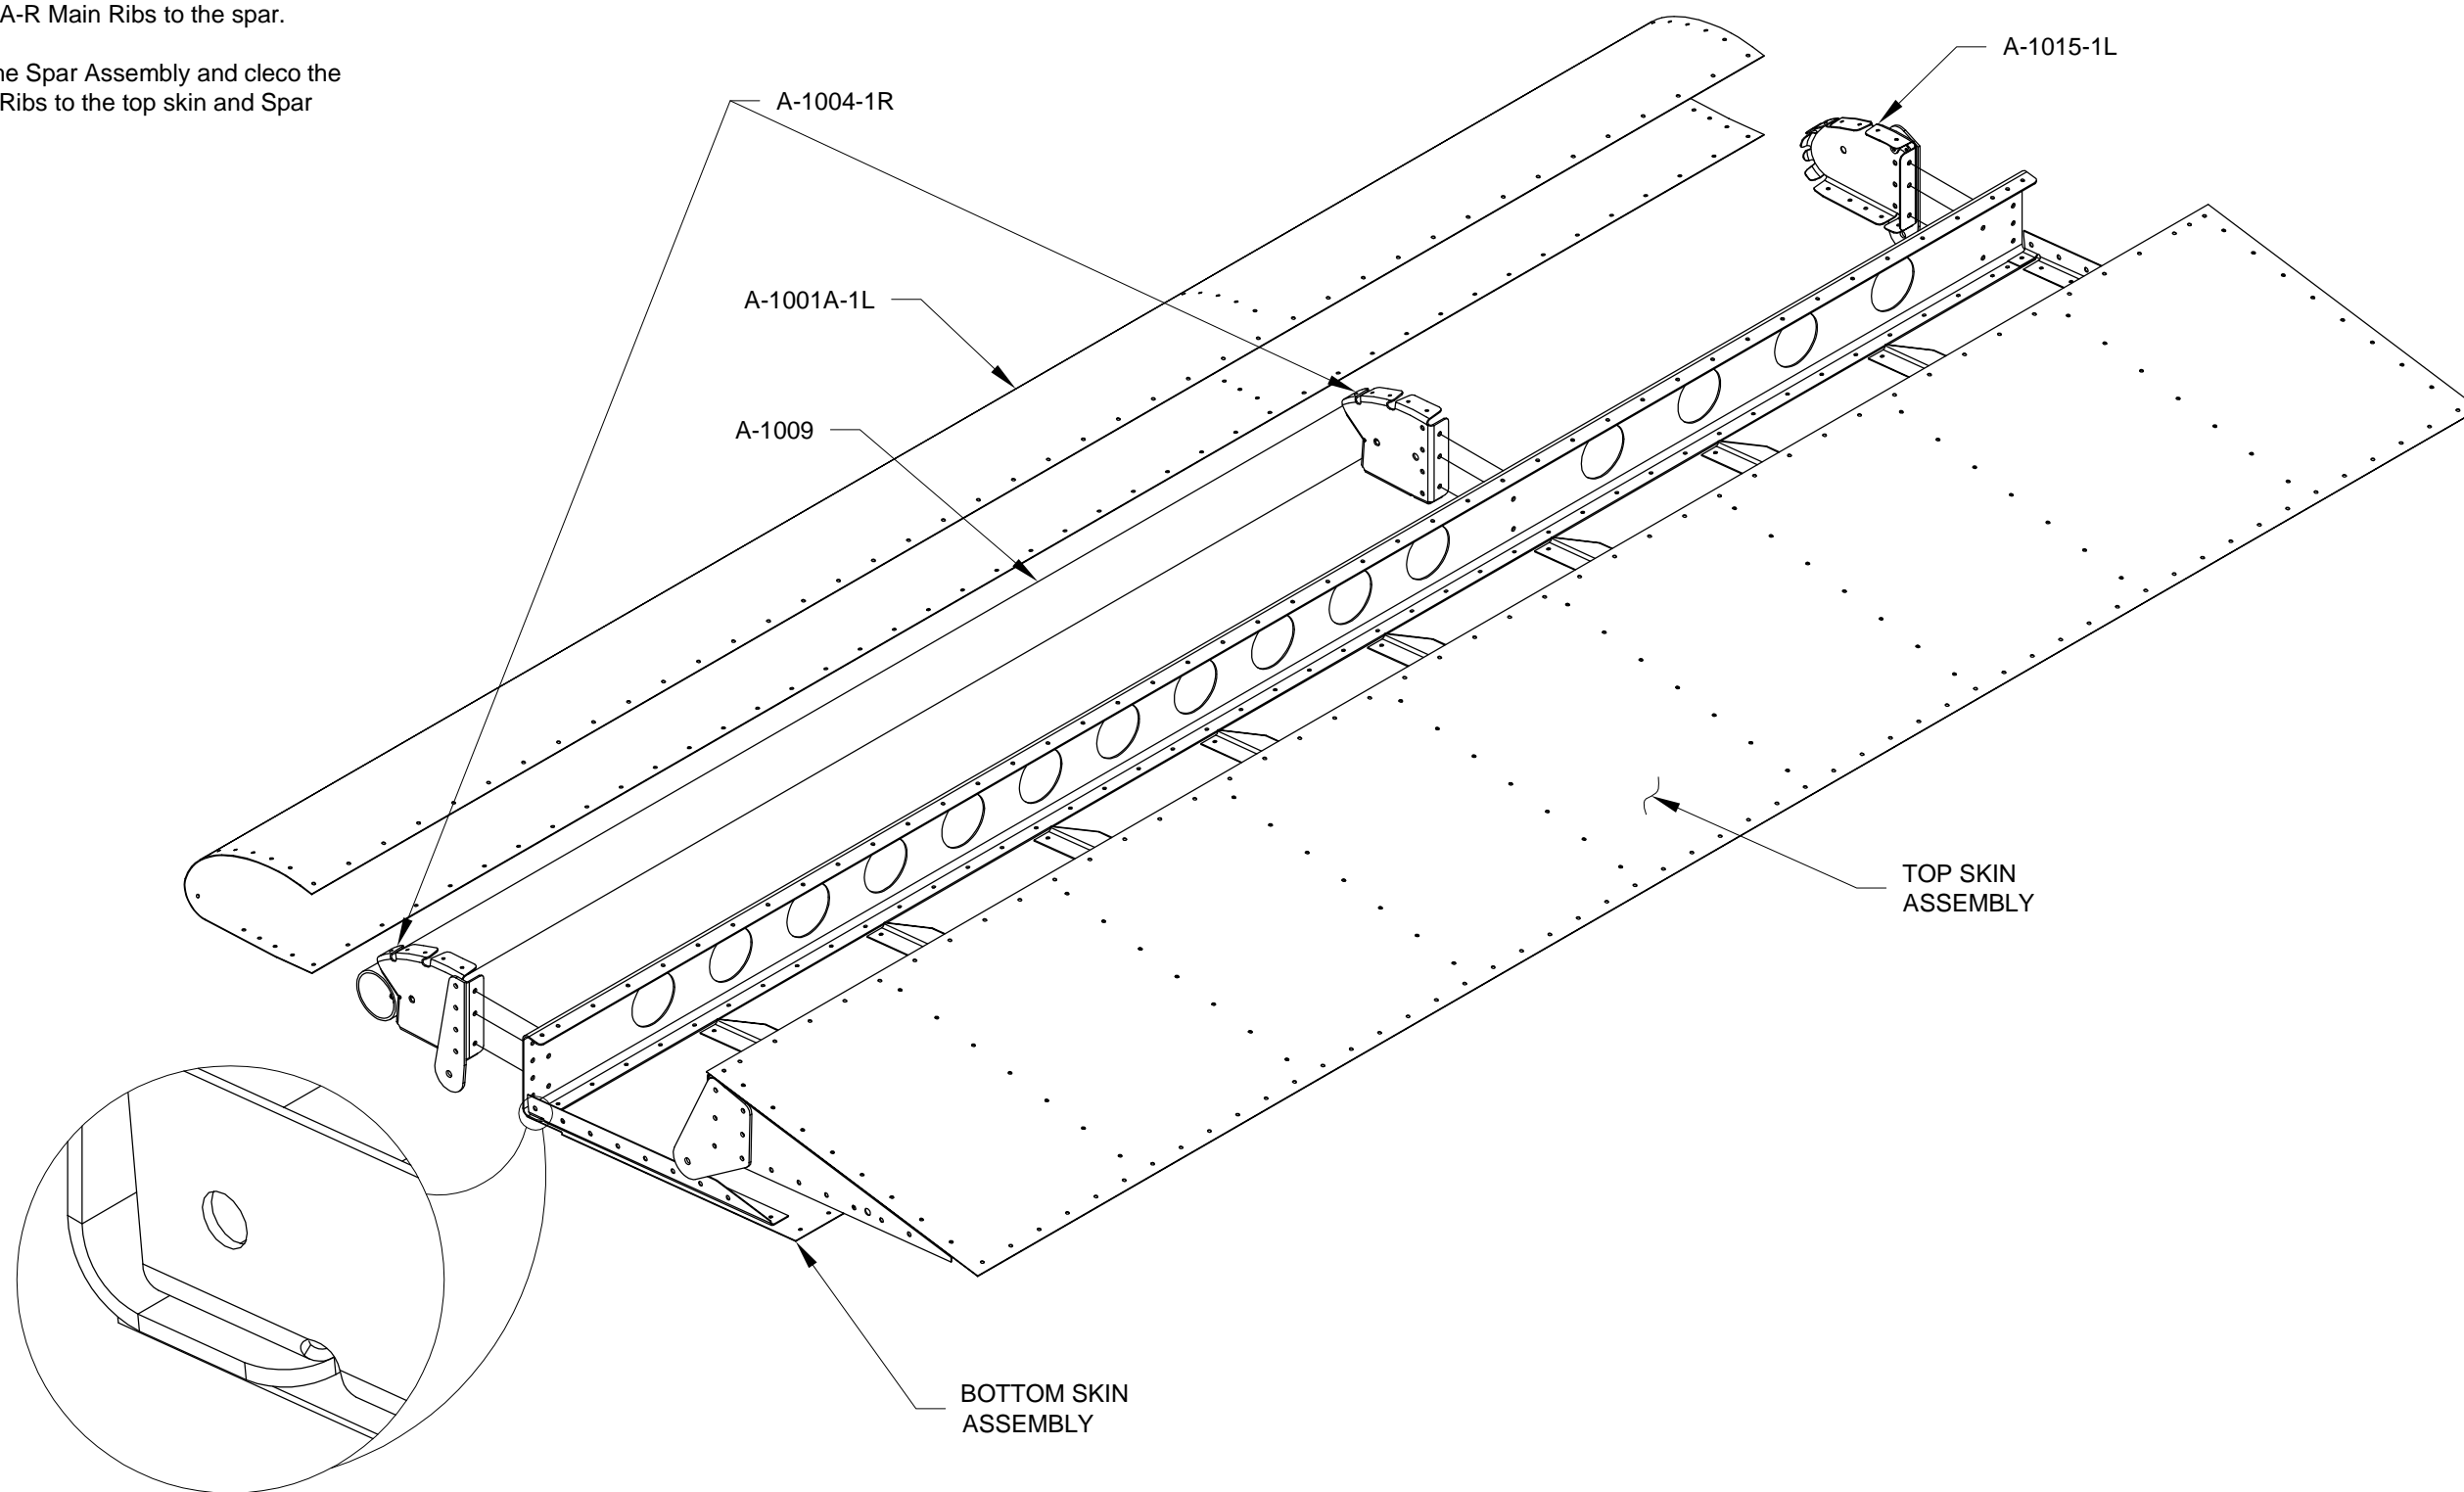

FIGURE 1: FITTING ASSEMBLY
Step 1: Lay the assembly flat on the table top hanging the clecos which are holding the A-1001A-1L Nose Skin to the A-1002-1 Bottom Skin and A-1003-1L Spar over the edge. Use a straight board to distribute weight over the main ribs to keep the skin firmly against the table with no twist. See Figure 1.